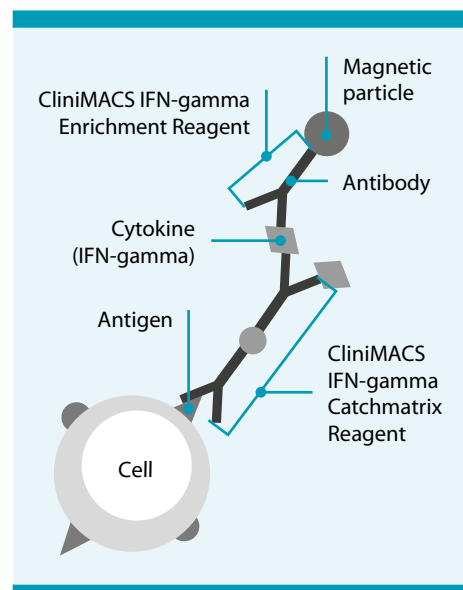

Figure 1.3: CliniMACS Cytokine Capture System (IFN-gamma)
- Indirectly in a two-step labeling procedure called CliniMACS Cytokine Capture System (IFN-gamma). First of all, cells are *in vitro* restimulated to secrete the cytokine (e.g., IFN-gamma). In a first labeling step the restimulated cells are labeled by a hybrid-molecule consisting of a leucocyte-specific antibody and a cytokine-specific antibody, called the CliniMACS IFN-gamma Catchmatrix Reagent. The cells are then incubated to allow secretion of the cytokine, which is "captured" by the catchmatrix on the cell surface. Subsequently, in a second labeling step the cytokine secreting cells are labeled with cytokine-specific antibodies conjugated to superparamagnetic iron-dextran beads (CliniMACS IFN-gamma Enrichment Reagent), (see Figure 1.3).